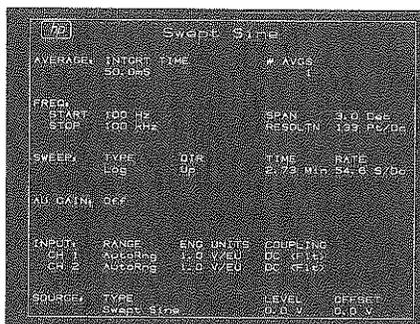

Figure 4-1
2. Preset Press the green **PRESET** key. The Swept Sine setup state can be displayed, as shown in Figure 4-1, by pressing the **STATE/TRACE** key. All values shown are the default preset measurement conditions.